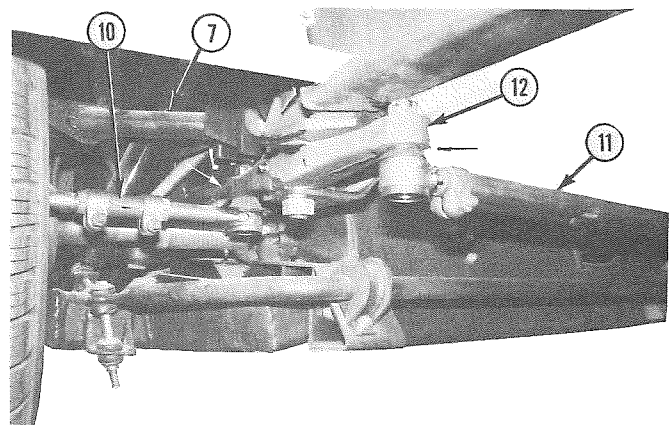

Figure 124 – Steering Linkage
**NOTE:** Be sure that stainless steel washers and Teflon lubricator disc are in place (see figure 124), except on later models which use a flanged bushing.
- Torque nut down to 100-150 ft. lbs. so as to allow arm to be moved with one hand firmly with no up and down movement (see figure 124).